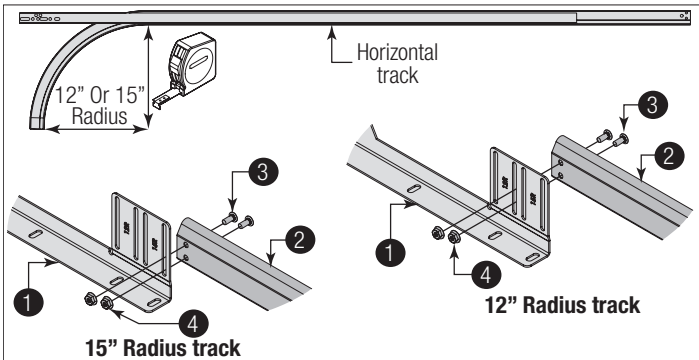
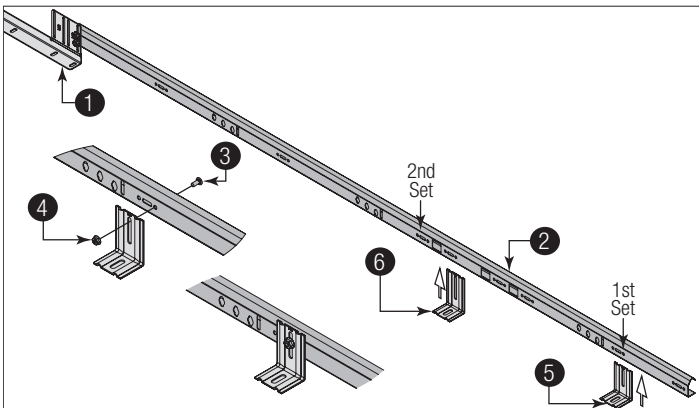

Figure 10, Left Side Shown
Figure 11, Left Side Shown
See Figure 10 and Figure 11 for the following steps.
**IMPORTANT:** In Figure 10, observe the slot location in reference to the 12" or 15" radius.